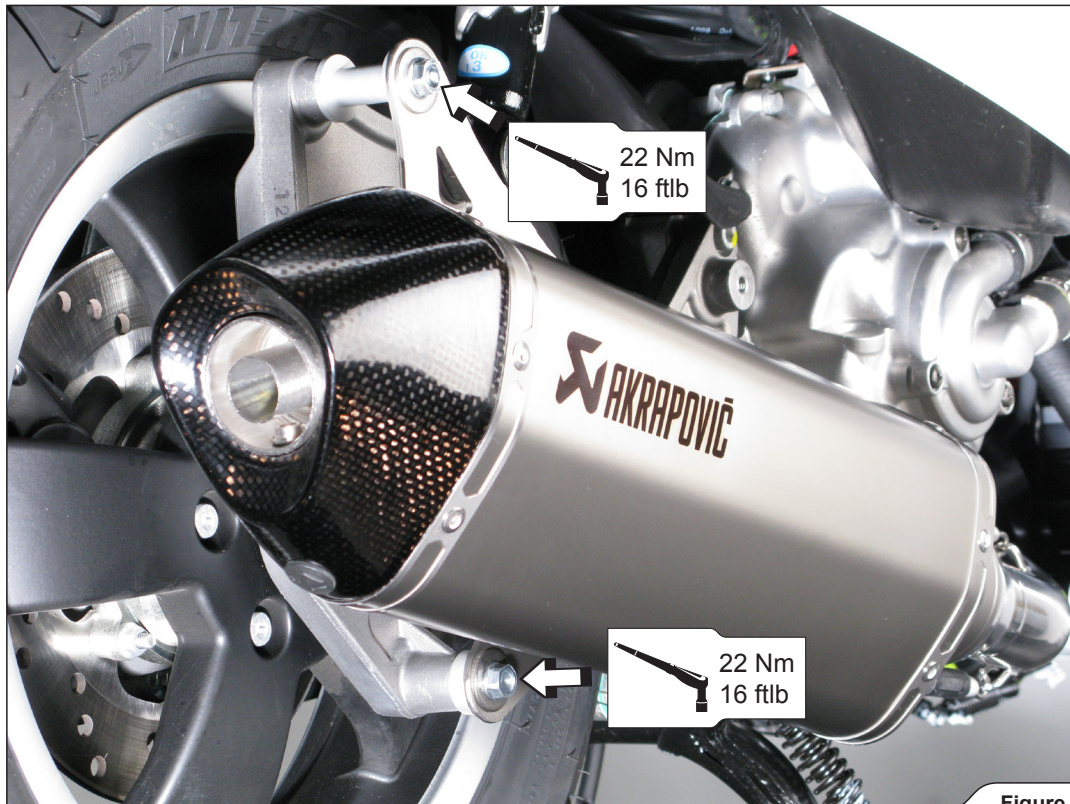

Figure 5
3. Position the muffler correctly, slide it onto the outlet side of Akrapovič link pipe and attach the springs. Align the muffler in respect the scooter and tighten the muffler, using Akrapovič bolts (for upper bracket M8x60mm and for lower bracket M8x40mm), washers and aluminium distance bushes. Tighten the metal clamp at the Akrapovič link pipe/stock header pipe joint to a specified torque (**Figure 5, 6**).